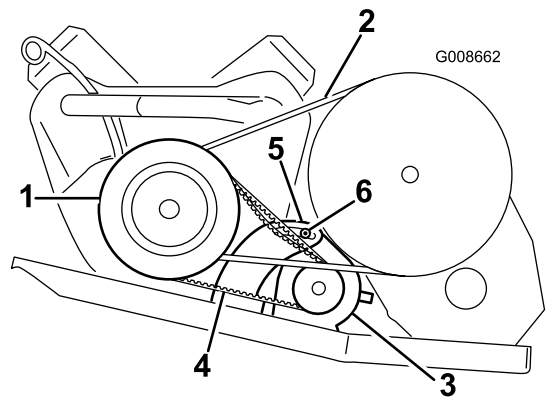

Figure 47
4. Tilt the starter in the slot until the belt flexes 1/4 inch (6 mm) with 10 lb (44 N) of force (Figure 47).
5. Tighten the starter generator nut and remove the pry bar (Figure 47). Torque the nut to 65-85 ft-lb (88-115 N-m).
2. Loosen the starter generator pivot nut (Figure 47).